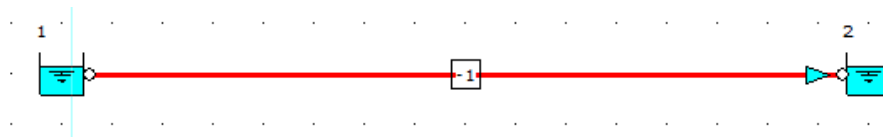

Figure 33: Hydraulic Model with Modified Draw Thickness and Draw Color.
39. The hydraulic model should now look like the screenshot given below (Figure 33).